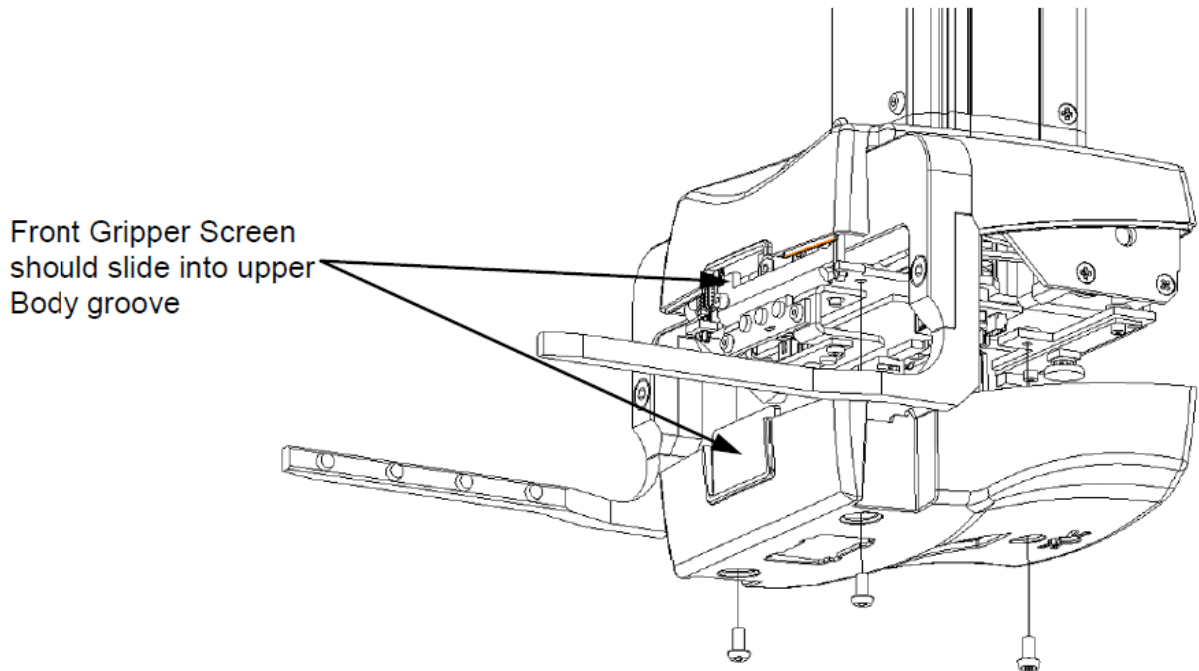

Figure H-1: Removal of Gripper Body Bottom Assembly
The *Gripper Assembly* is located on the bottom of the Z-drive (Figure H-1).
1. Remove the Gripper Body Bottom assembly from the bottom of the Gripper by removing the three M3x6 BHCS and remove the screen (Figure H-1).